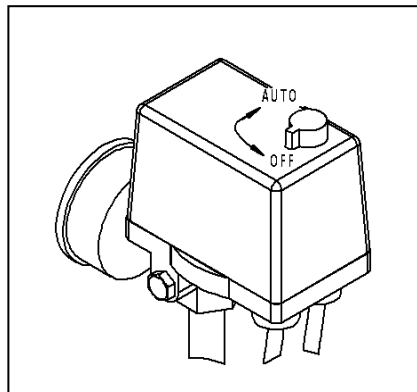

Figure 2
- 1 Switch off the pressure switch. Depending on the model, turn the pressure switch to the "O" or "OFF" position (**Figure 2**).
Starting up following activation of the protection device: Once the motor has cooled to an acceptable temperature, set the pressure switch to the "O" or "OFF" position (**Figure 2**) and then activate the compressor by turning to the "I" position or, depending on the model, to "ON" again. If present, press the thermal protection button, which is located on the terminal box of the electric motor.